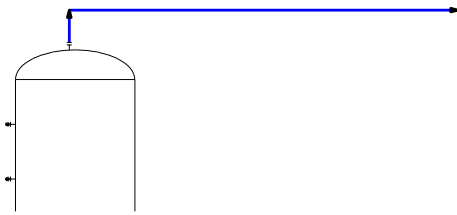

Figure 2-52 Line drawn from the top of the vessel
7. Move the cursor horizontally toward right and create a line, as shown in Figure 2-52. Assign the tag **12"-CS150-P-1006T** to the line.